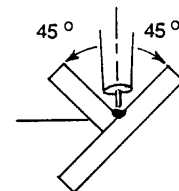

Figure 2.8
3. The electrode should be positioned at a 45° work angle and a 10° drag angle to perform the weld. (See Figures 2.8 and 2.9.)